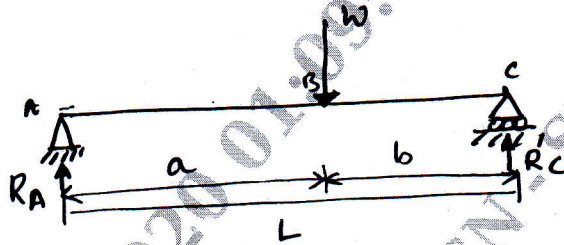

Fig.Q7(b)
- b. Calculate the support reactions in simply supported beam shown in Fig.Q7(b) using virtual work method.